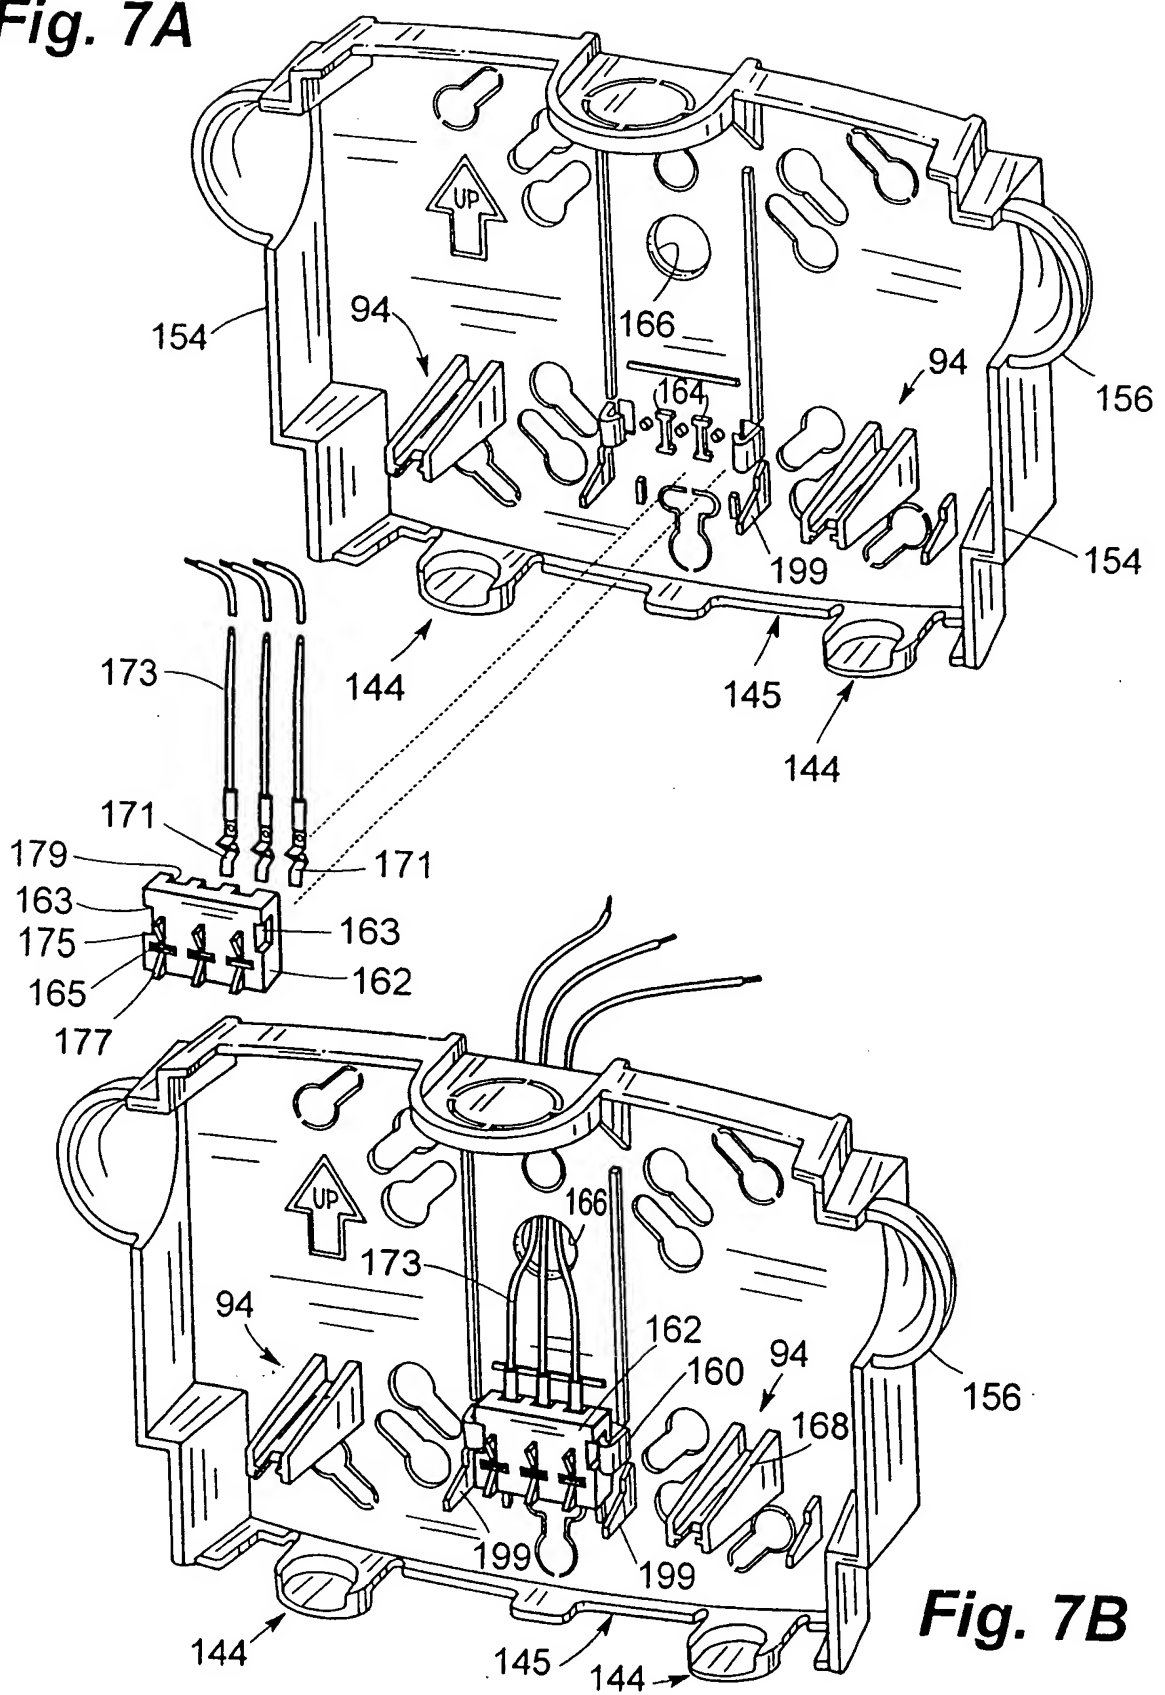

Fig. 7B
Fig. 7B is an exploded perspective view of the same multi-pin connector assembly, showing a different exploded position. It shows the housing (154) with a top flange (156) and a bottom flange (154). The housing has a central opening (94) and a side opening (144). A top cover (166) is shown with a central opening (164) and a side opening (199). A bottom cover (145) is shown with a central opening (144) and a side opening (144). A multi-pin connector (171) is shown with a top flange (173) and a bottom flange (177). The connector has a central opening (163) and a side opening (165). The connector is shown in an exploded position relative to the housing and covers. An arrow labeled "UP" indicates the direction of assembly.